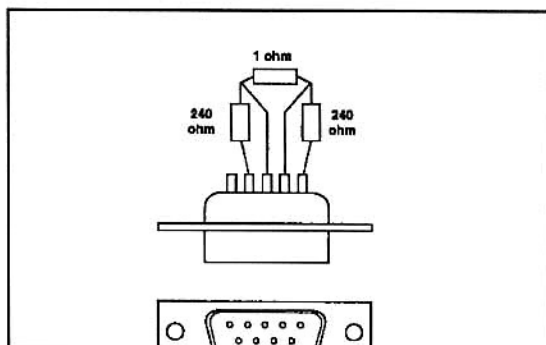

Figure 8: Calibration Fixture
- Calibration fixture. Refer to *Figure 8*.
5. Remove the sensor connector and replace it with the calibration fixture. Refer to *Figure 8*.
A calibration fixture can be fabricated to provide easy access to the VERSAMETER sensor connector. Three resistors are installed onto a DE9P connector. Refer to *Figure 8*.